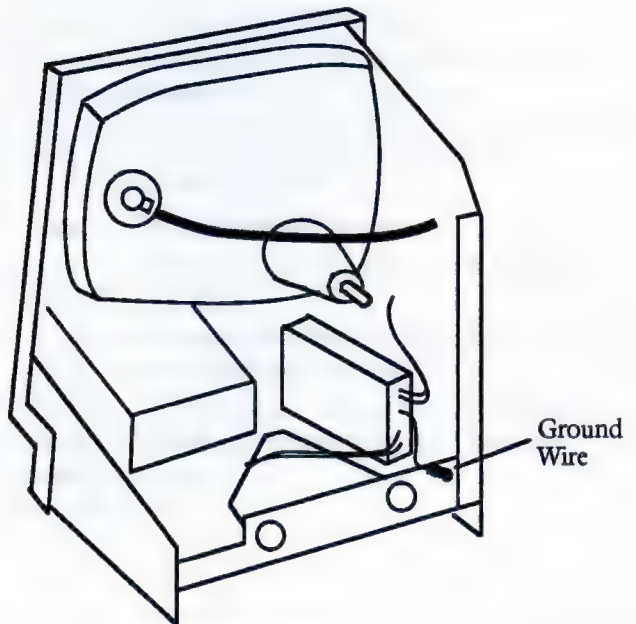

Figure 9: Power supply positioning
2. Position the power supply in the Mac chassis with the bracket studs passing through the chassis holes as shown in Figure 9.